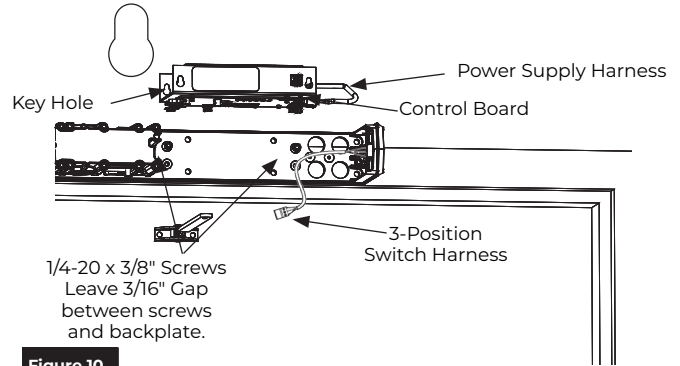

Figure 10
1. Insert two (2) 1/4-20 x 3/8" screws as shown, leaving an approximate 3/16" gap between the head of the screws and backplate. (Figure 10)
2. Slide the power supply key holes over screws allowing narrow slots of key holes to rest on the screws. (Figure 10)